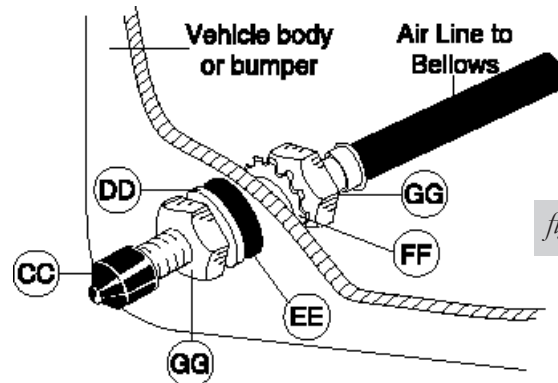

fig. 8
3. Cut the air line assembly (AA) in two equal lengths.
4. Place a 5/16" nut (GG) and a star washer (FF) on the air valve. Leave enough of the valve in front of the nut to extend through the hole and have room for the rubber washer (EE), flat washer (DD), and 5/16" nut (GG) and cap (CC). There should be approximately 1/2" of the valve exposed after installation to easily apply a pressure gauge or an air chuck (Figure 8).
5. Push the inflation valve through the hole and use the rubber washer (EE), flat washer (DD), and another 5/16" nut (GG) to secure it in place. Tighten the nuts to secure the assembly in place (Figure 8).